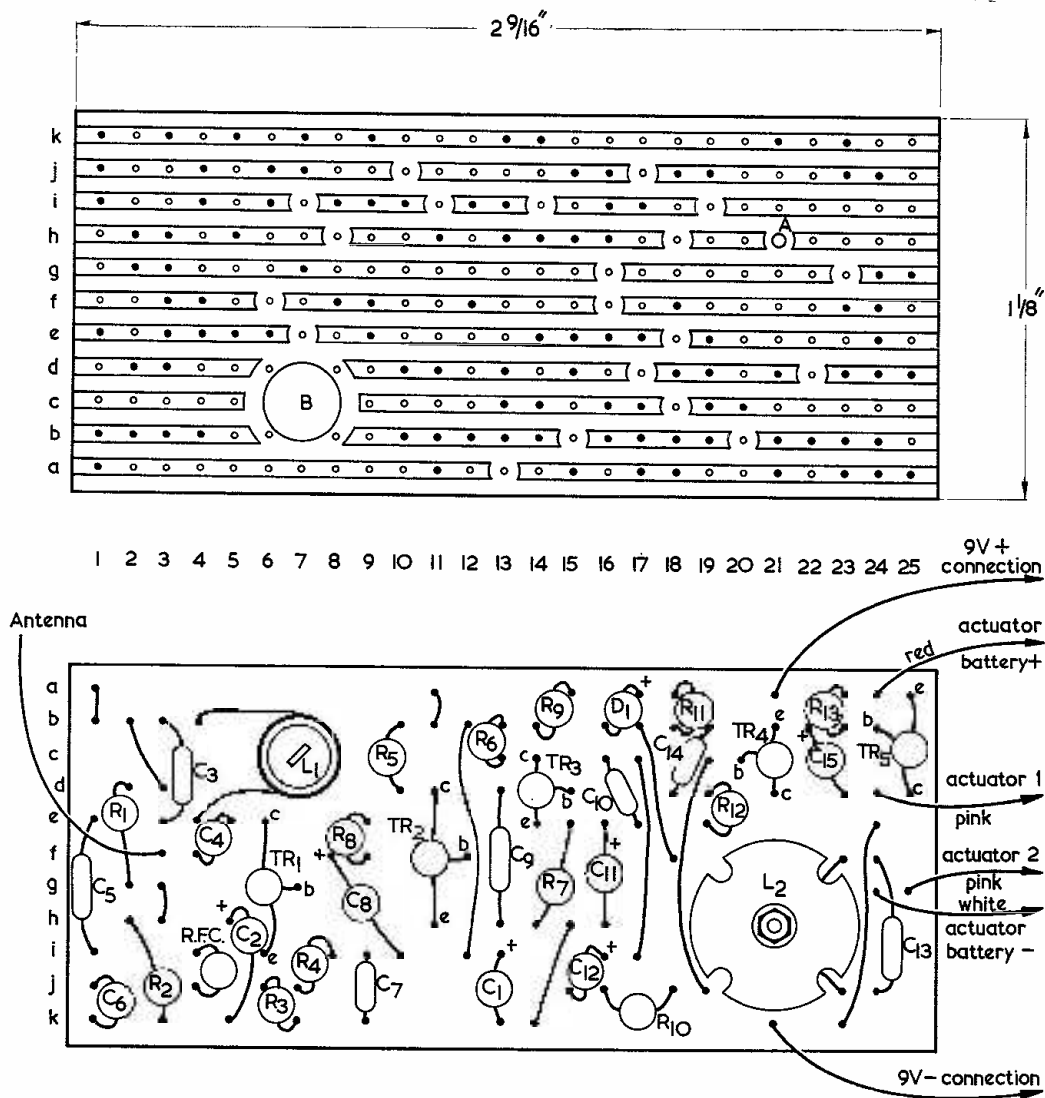

Fig. 2. The copper and component sides of the Veroboard panel
Start construction by cutting the panel to size, as shown in Fig. 2, and then drill the two holes where indicated; the larger of these two holes (B) should be a tight fit on the L_1 coil former. Next, break the copper strips on the copper side of the panel with the aid of a small drill or a sharp penknife, exactly in the positions shown.
(3). Solder the following components in position (see Fig. 2), noting that all components fitted now and in later steps (except C₅) are mounted vertically, and that insulated sleeving should be used where there is any danger of components short-circuiting against one another. Remember that the cases of TR₁, TR₂ and TR₃ are internally connected to their collectors. Connect C₁ with positive to hole 13i and negative to 13k, R₁ between 2d and 2g, R₂ between 2h and 3k, the r.f. choke between 4i and 4j, C₂ between 5h and 5k (positive to 5h), C₄ between